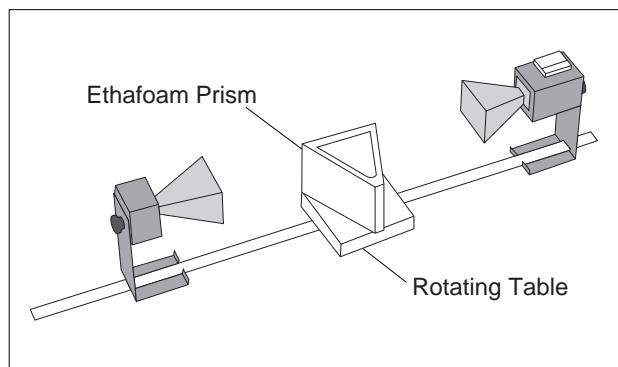

Figure 4.2 Equipment Setup
- ① Arrange the equipment as shown in Figure 4.2. Rotate the empty prism mold and see how it effects the incident wave. Does it reflect, refract, or absorb the wave?
- ② Fill the prism mold with the styrene pellets. To simplify the calculations, align the face of the prism that is nearest to the Transmitter perpendicular to the incident microwave beam.
- ③ Rotate the movable arm of the Goniometer and locate the angle θ at which the refracted signal is a maximum.